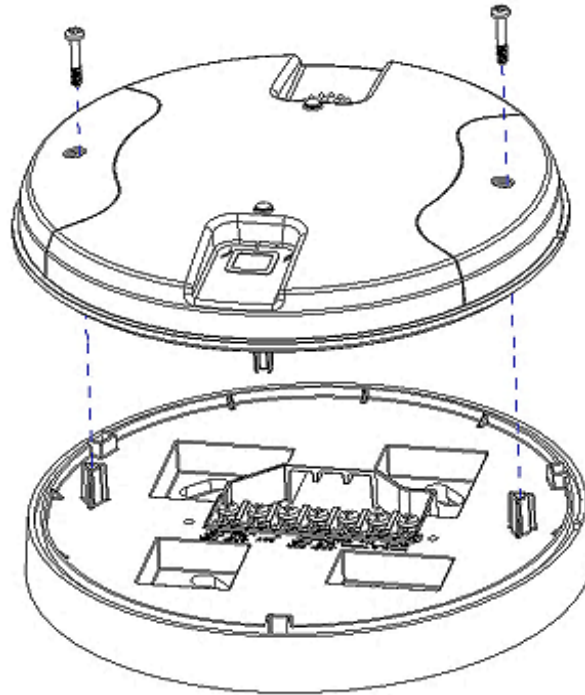

Figure 2.3 Cover Attaching to Mounting Plate
5. To mount the cover, align the locating pins on the cover to the corresponding slots in the mounting plate. See Figure 2.3, "Cover Attaching to Mounting Plate".